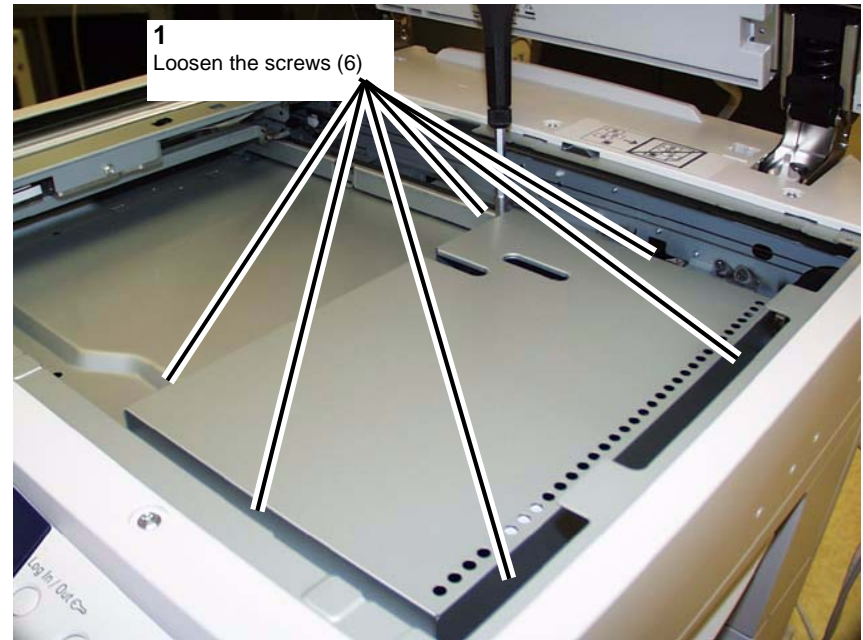

Figure 2 Removing the Optics Cover
3. Remove the Platen Glass and the Optics cover. (Figure 2)